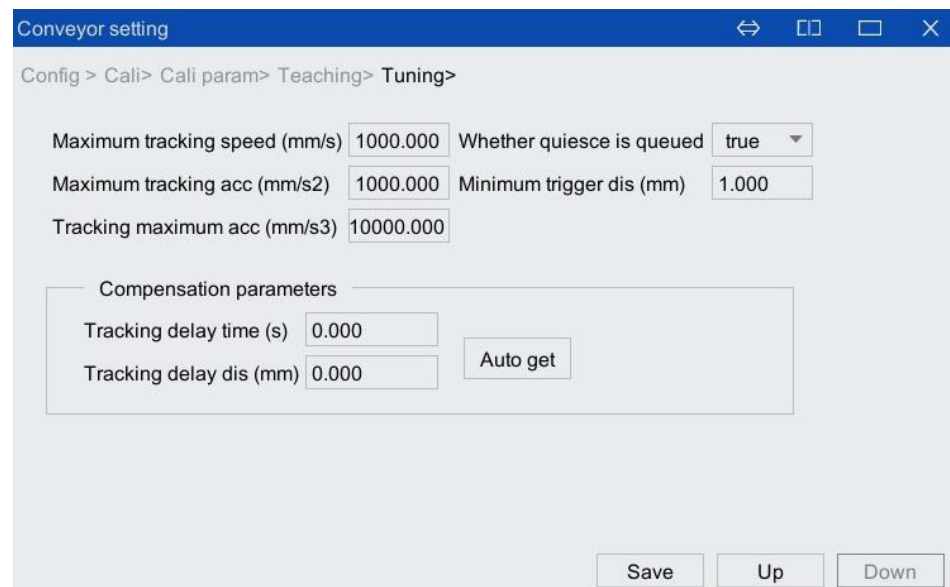

Figure 5-14 Conveyor belt parameter fine-tuning interface
Step17. Click <Down> to enter the [Tuning] interface, where parameters can be adjusted according to specific tracking conditions, as shown in Figure 5-14. The number description is shown in Table 5-3.